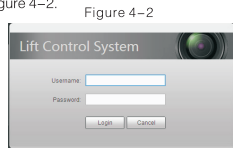

Figure 4-2
Step 1 Enter IP address of lift controller at the address bar of PC browser, and press [Enter] key. The system displays WEB login interface, as shown in Figure 4-2.